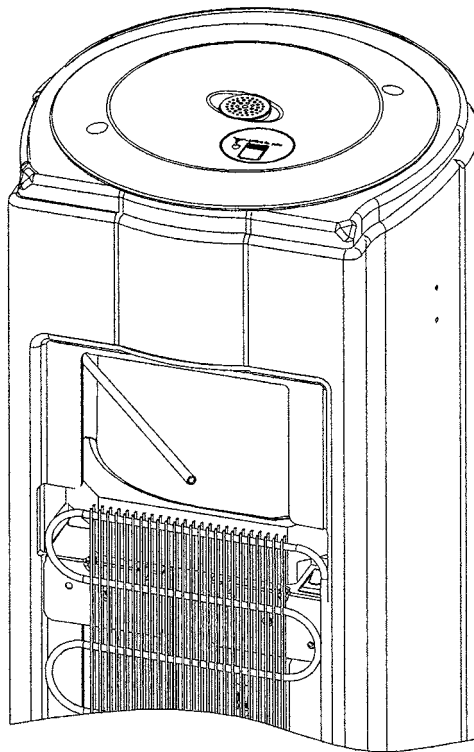

Figure 3.
7. Position the $\frac{1}{4}$ " tubing from the POU kit so that it exits from the rear of the cooler (Figure 3).
1. Connect a filtered feed water supply at 40-45 psi to the tubing at the rear of the unit (Figure 3). RO water is recommended.